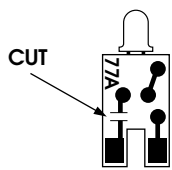
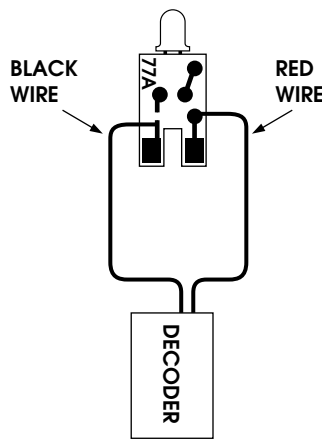
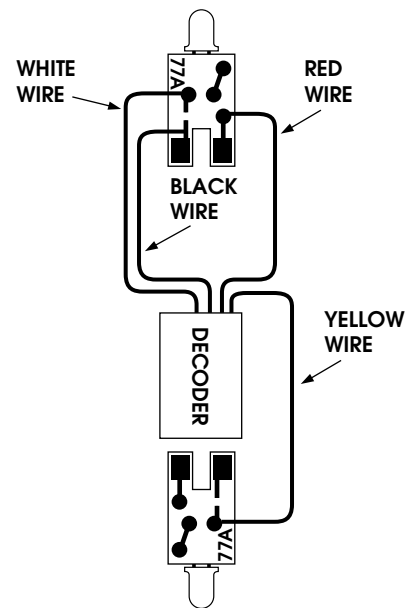

Fig. 1
Fig. 2
Fig. 3
- Lay the light boards out in front of you, parts side down as shown in Fig. 1. With a sharp hobby knife make a cut in the circuit trace as shown (Fig. 1). Attach the BLACK and RED wires as shown (Fig. 2). Solder WHITE wire to front light board and YELLOW wire to rear light board as shown (Fig 3).